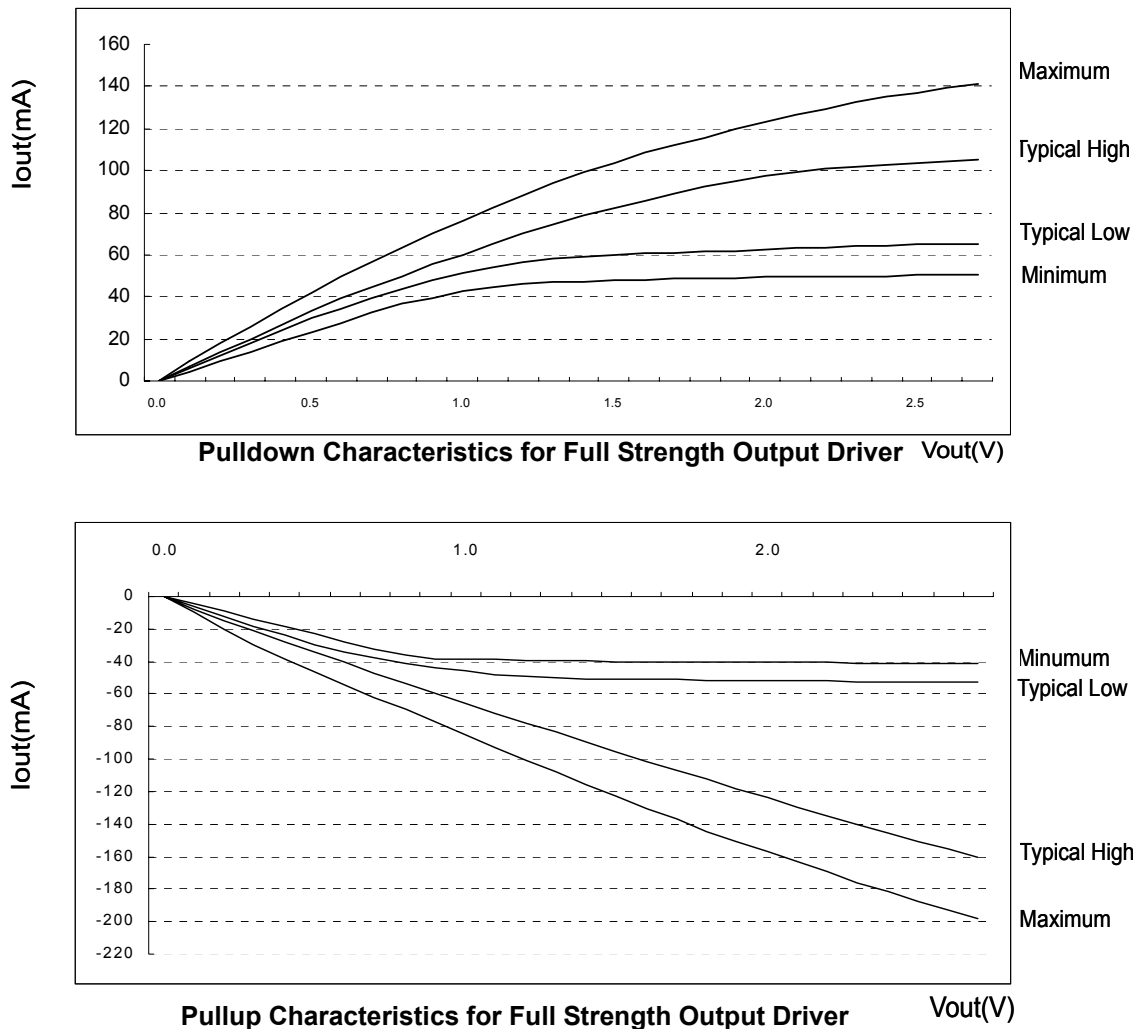

Figure 4. I/V characteristics for input/output buffers: Pulldown (above) and pullup (below)
Figures 4 and 5 show the driver characteristics graphically, and tables 8 and 9 show the same data in tabular format suitable for input into simulation tools. The driver characteristics evaluation conditions are:
1. The full variation in driver current from minimum to maximum process, temperature and voltage will lie within the outer bounding lines of the V-I curve of Figures 4 and 5.
2. It is recommended that the "typical" IBIS V-I curve lie within the inner bounding lines of the V-I curves of Figures 4 and 5.